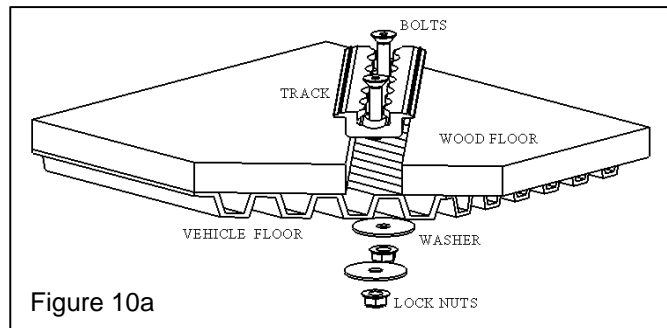

Figure 10a
2. If **recessing track** into floor (Figure 10a), route area in floor for each track; 1.42" (36mm) wide x 1/2" (13mm) deep and proceed to Step 4.
10. Securely fasten bolts and lock nuts as shown in Figures 10a & 10b, ensuring at least 2 – 3 threads are sticking out. **Recommended torque = 35 FT/LB (47 N.m.).**